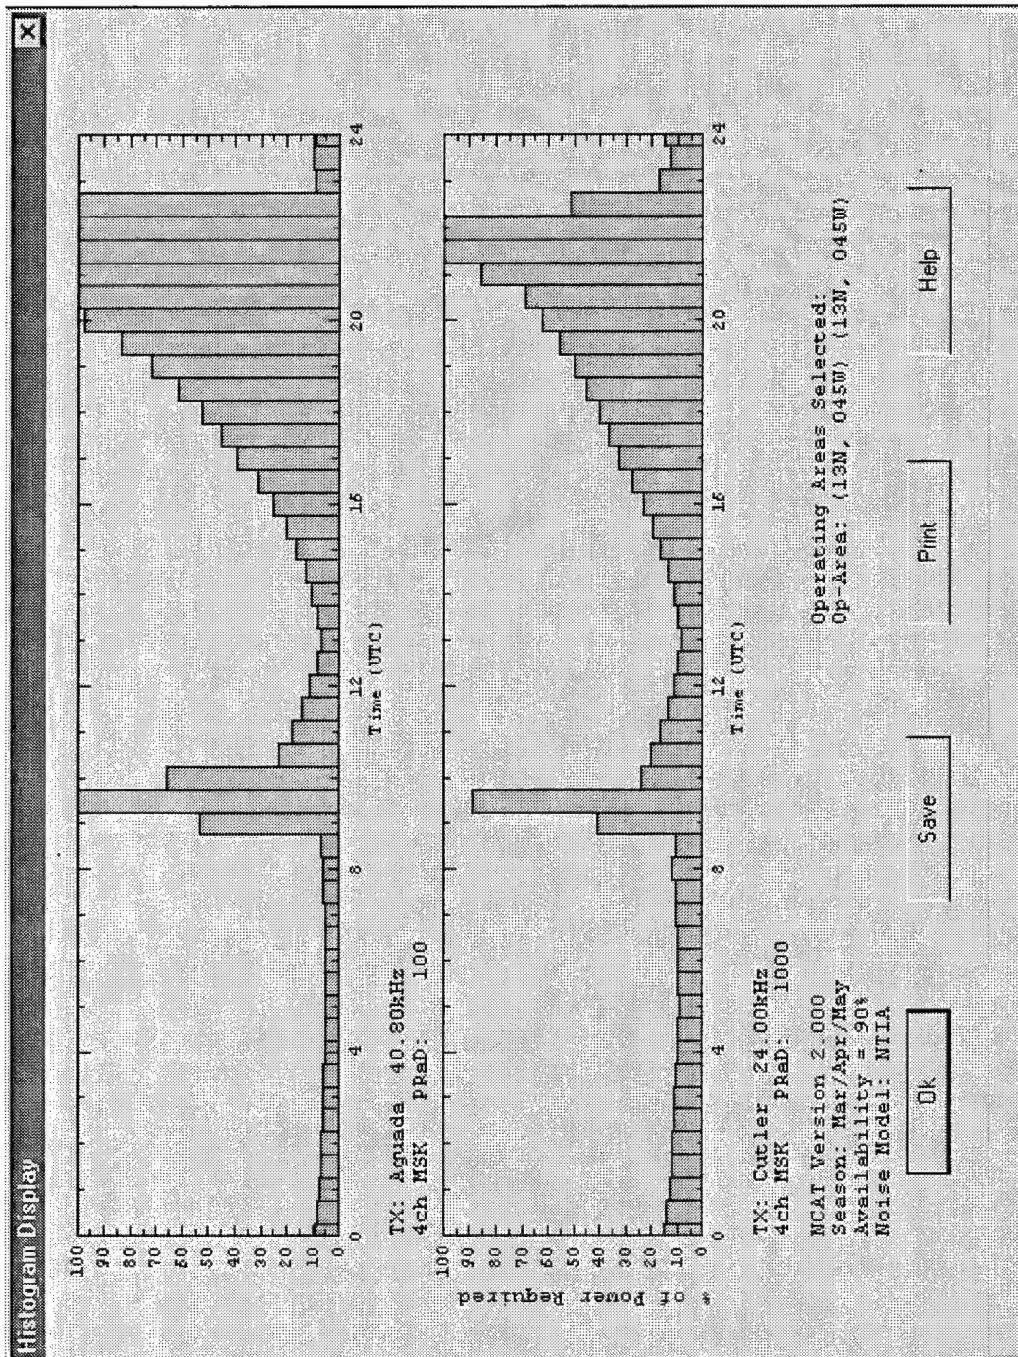

Figure 16. Example of percentage of power histogram.
- A determination of the percentage of full power for each of the selected transmitter(s) that is required to fully cover the combined selected receiver area(s). To perform a Percentage of Power analysis, select Run Scenario -> Show Percent Power.... Figure 16 shows an example of the resulting hard copy.